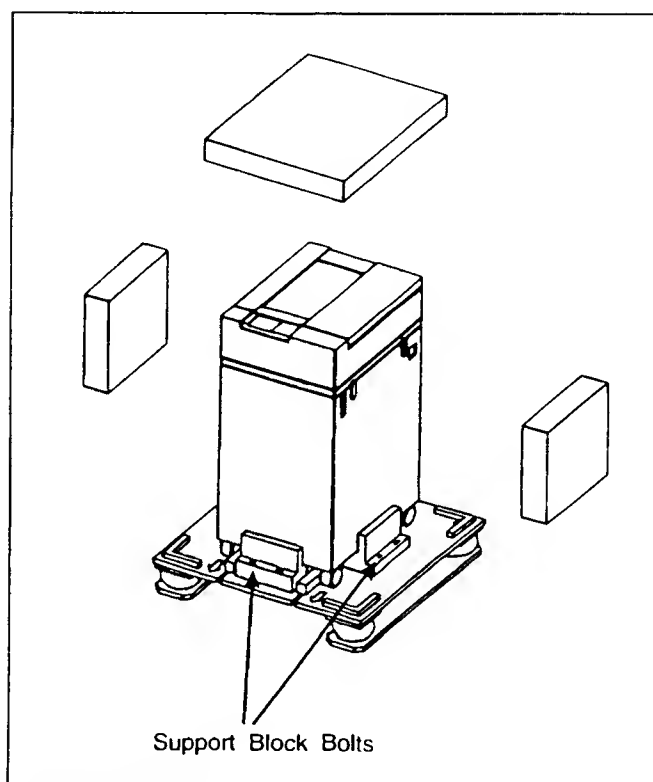

Figure 2-3. Step c.
- c. Remove accessories boxes, top pad, cushion skids screws and support block bolts (Figure 2-3).